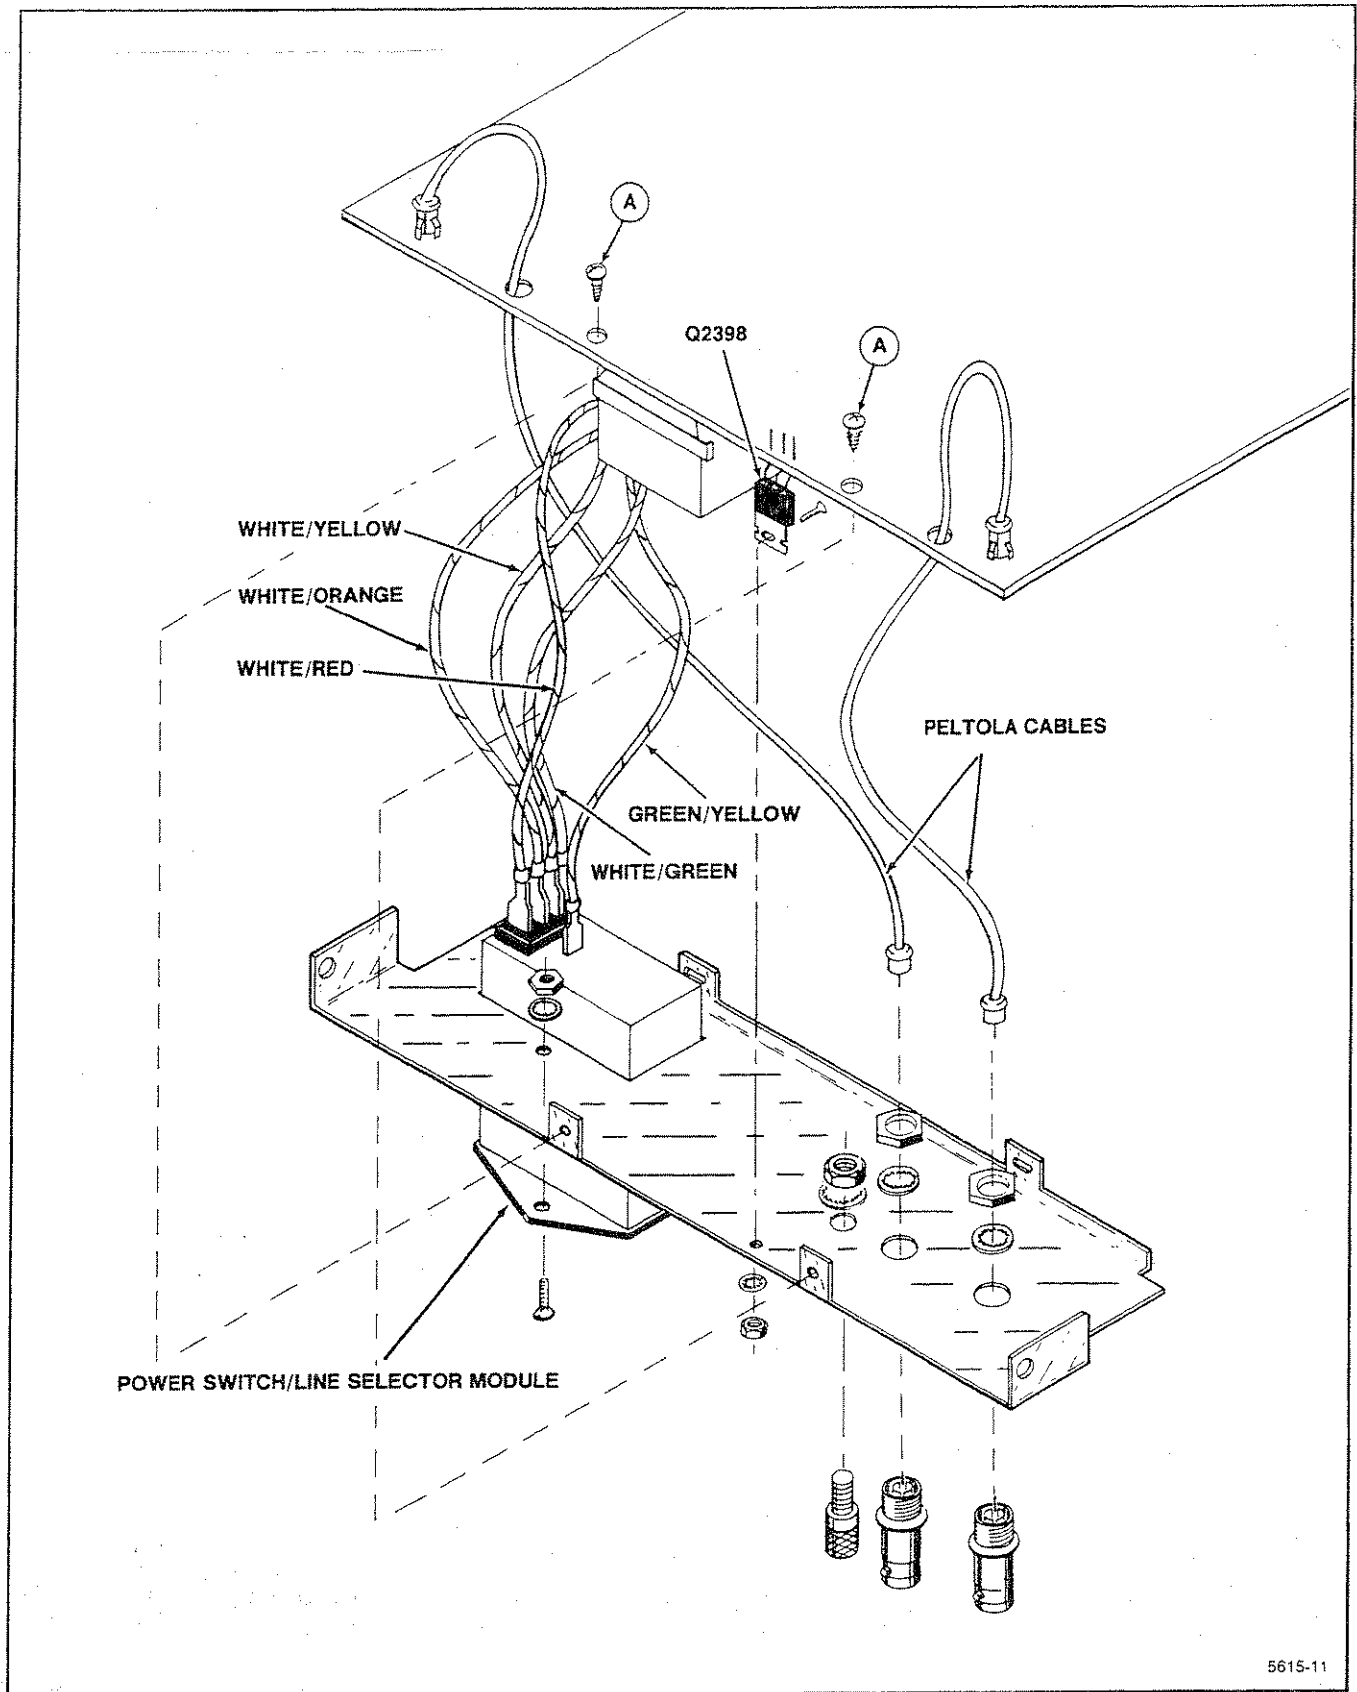

Figure 6-7. Rear subpanel disassembly.
1. Remove the two Posidriv® self-tapping screws (labeled "A" in Figure 6-7).
Carefully note the position of all wires to be disconnected to insure that they are properly located during reinstallation. Failure to do so may cause serious damage to the A6902B (refer to Figure 6-7 during reinstallation.)